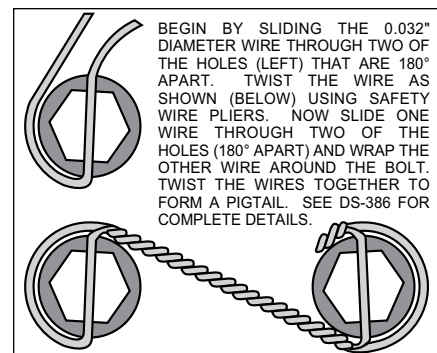

Figure 3. Safety Wire Diagram
•The flat spindle/caliper mounting bracket (1) should be installed first with clean, dry threads on the mounting bolts. Install the bracket on the back side of the spindle by sliding bolt (2) through the bracket (1) and into the upper hole of the spindle upright boss. Apply red *Loctite*® 271 to the threads and torque bolt (2) to 140 ft-lb. Slide bolt (3) through lower spindle “ear”, through the bracket (1), washer (4), and secure with locknut (5). Torque locknut (5) to 65 ft-lb. The bracket must tighten squarely against the side of the spindle body. Inspect for interference from casting irregularities, machining ridges, burrs, etc.
•With the larger I.D. side of the rotor (6) facing away from the hat (7), bolt rotor (6) to hat (7) through the backside of the rotor using bolts (9), and washers (8). Apply red *Loctite*® 271 to the bolt threads and torque to 155 in-lb using a criss-cross pattern. For an added measure of security, the bolts may be safety wired using standard 0.032 inch diameter stainless steel safety wire as shown in Figure 3. Please refer to Wilwood’s data sheet DS-386 (available at www.wilwood.com/Pdf/DataSheets/ds386.pdf) for complete safety wire installation instructions.